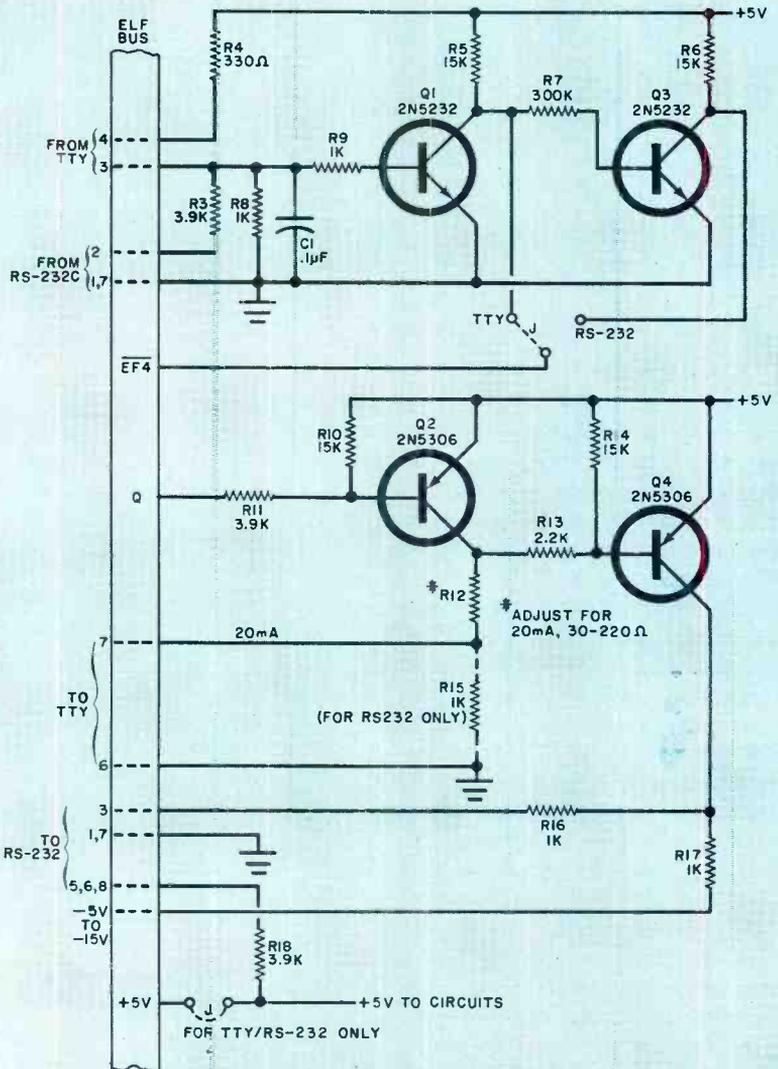

Fig. 3. Transistors Q1 and Q2 form the 20-mA current loop with Q3 and Q4 added to make up the RS-232 loop.
**20-mA/RS-232 Interface.** This circuit (Fig. 3) requires an external dc supply of -5 to -15 volts for the RS-232 section. To receive data from a 20-mA current-loop peripheral (such as a TTY), and if the peripheral requires an external current source, then connect the R4 line to the external device (on the TTY, this should be terminal 4). The current from the device (on the TTY, terminal 3) is fed to the Q1 input circuit. The output of Q1 is jumper-selected to drive the EF4 line on the bus.